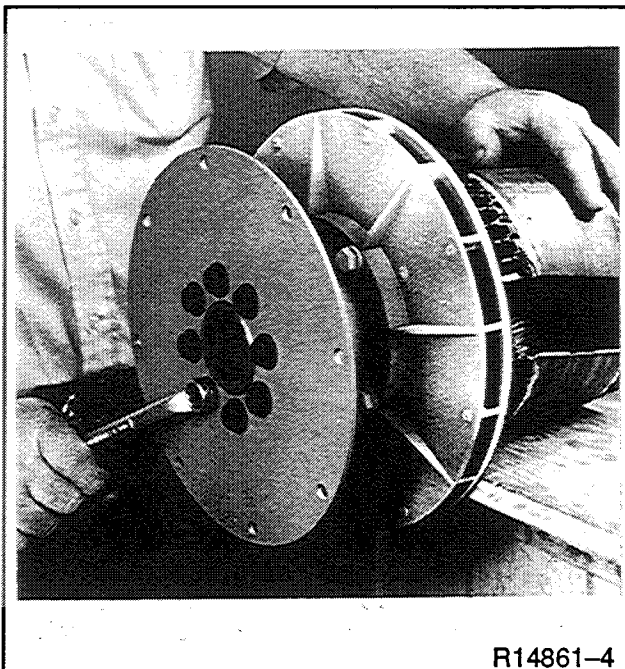

Figure 9-18. Removing Flex Discs (2)
18. Remove eight screws to detach flex discs (2) from rotor. See Figure 9-18.